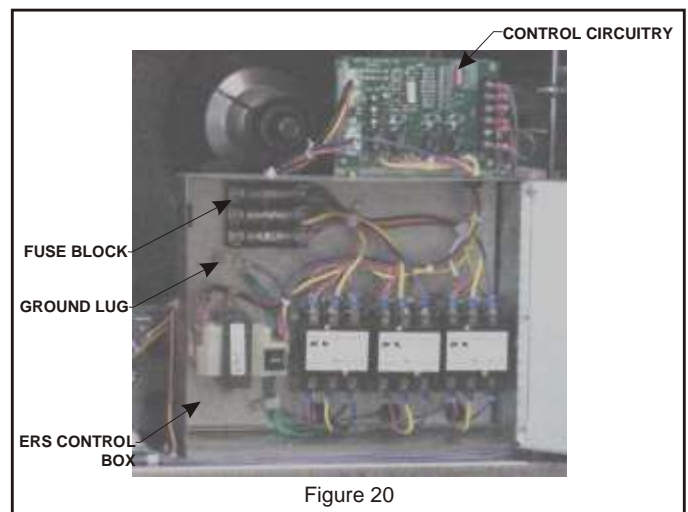

Figure 20
13. Connect line voltage power to ERS unit from ERS field provided or rooftop unit disconnect switch (disconnect must be properly sized). Then connect line voltage from disconnect switch through ERS knockout on middle post to control box per the wiring diagram. **See Figure 20.**